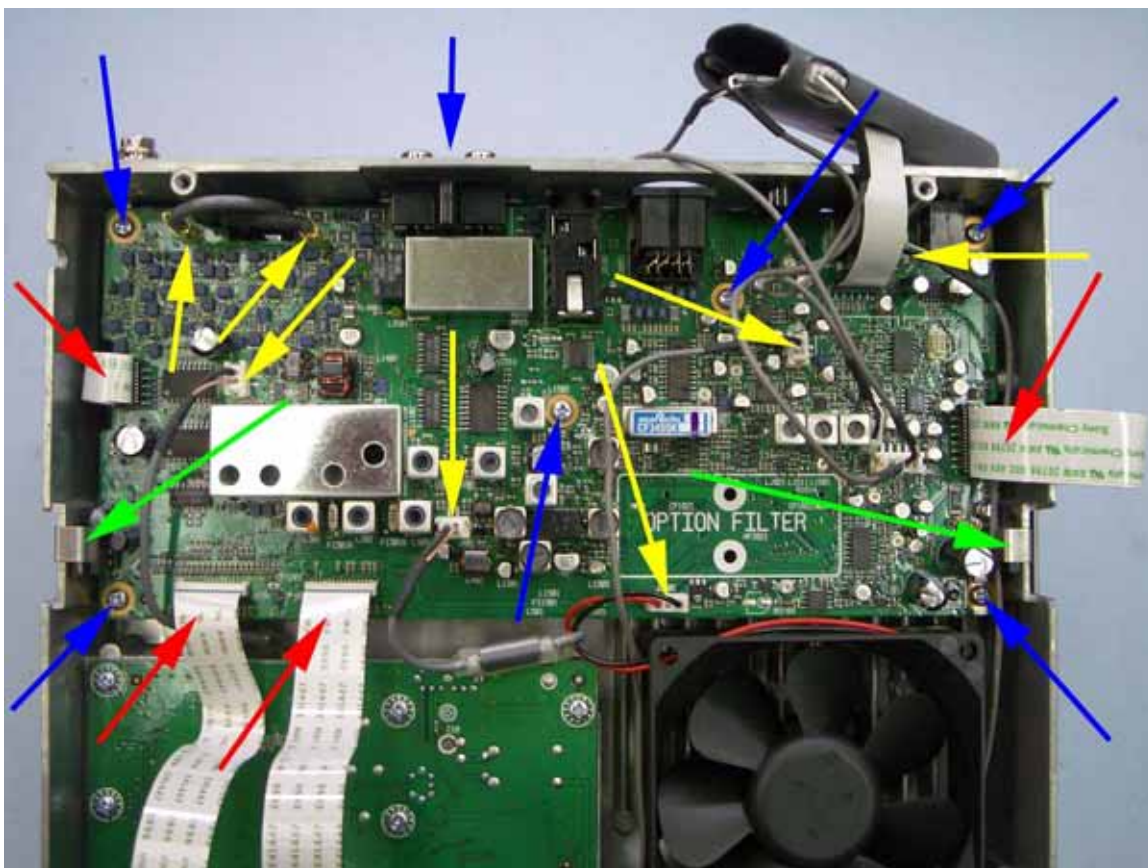

Figure 1
2. Refer to Fig. 1 and also page 50 in the IC-718 manual for reference.
3. Carefully unplug the four (4) ribbon cables (red arrows) from the PCB referred to as the MAIN unit.
4. Carefully unplug the two (2) coax connectors and five (5) plugs (yellow arrows) from the PCB.
5. Carefully remove the two (2) Tr-clampers (green arrows) from IC3401 and IC2901.
6. Remove the seven (7) screws holding the PCB in place (blue arrows). Retain these screws to replace the PCB.